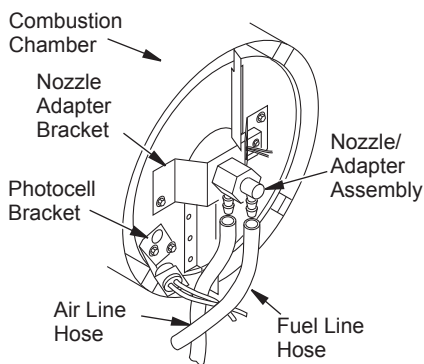

Figure 14 - Removing Air and Fuel Line Hoses
3. Remove fuel and air line hoses from nozzle assembly (see Figure 14).